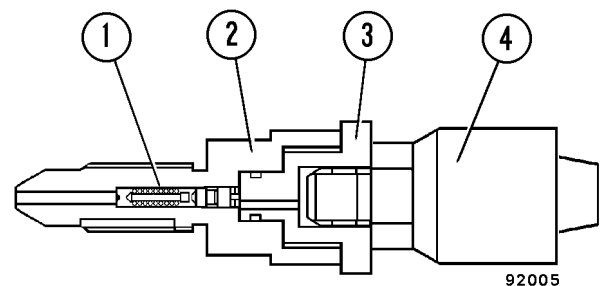

FIGURE 20-10. PRESSURE SENSOR.
6. Insert the connector of the new battery directly into the connector on the board (Figure 20-10). Place the battery in the battery holder, and pass the wiring through the notch. When doing this, insert the wiring into the bottom of the holder and pass it through the notch.